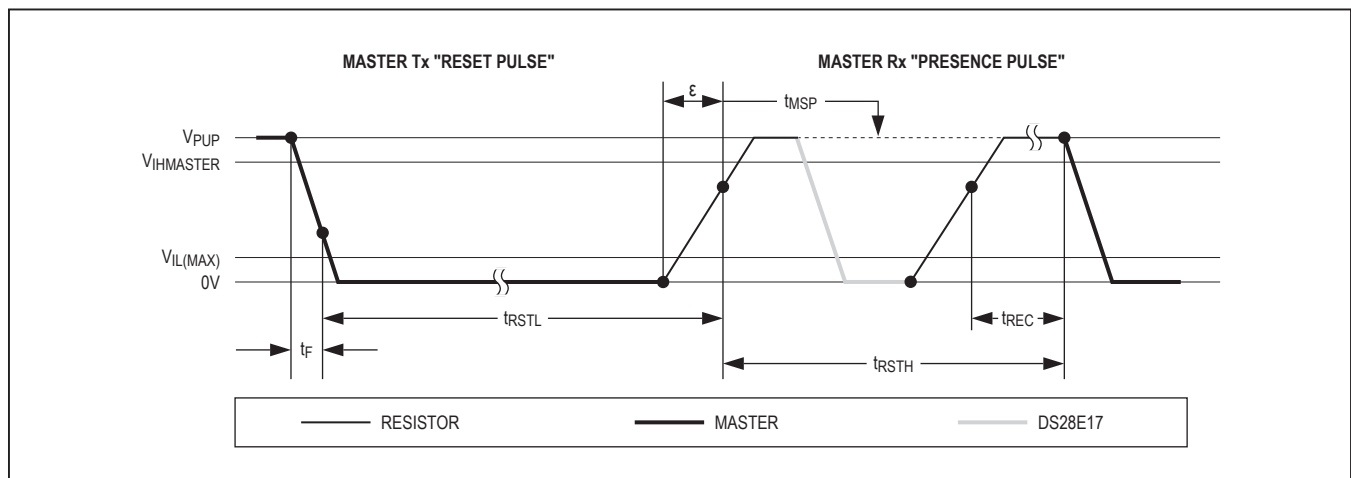

Figure 5. Initialization Procedure: Reset and Presence Pulse
**Note 12:** ε in Figure 5 represents the time required for the pullup circuitry to pull the voltage on IO up from VIL to VIH. The actual maximum duration for the master to pull the line low is tW1LMAX + tF - ε and tW0LMAX + tF - ε, respectively.
from active to idle, the voltage needs to rise from below  $V_{ILMAX}$  to above  $V_{IHMIN}$ . The time it takes for the voltage to make this rise is seen in Figure 5 as  $\epsilon$ , and its duration depends on the pullup resistor ( $R_{PUP}$ ) used and the capacitance of the 1-Wire network attached. The voltage  $V_{ILMAX}$  is relevant for the DS28E17 when determining a logical level, not triggering any events.
Figure 5 shows the initialization sequence required to begin any communication with the DS28E17. A reset pulse followed by a presence pulse indicates that the DS28E17 is ready to receive data, given the correct ROM and Device command. If the bus master uses slew-rate control on the falling edge, it must pull down the line for  $t_{RSTL} + t_F$  to compensate for the edge. A  $t_{RSTL}$  duration of 480 $\mu$ s or longer exits the overdrive mode, returning the device to standard speed. If the DS28E17 is in overdrive mode and  $t_{RSTL}$  is no longer than 80 $\mu$ s, the device remains in overdrive mode. If the device is in overdrive mode and  $t_{RSTL}$  is between 80 $\mu$ s and 480 $\mu$ s, the device resets, but the communication speed is undetermined.